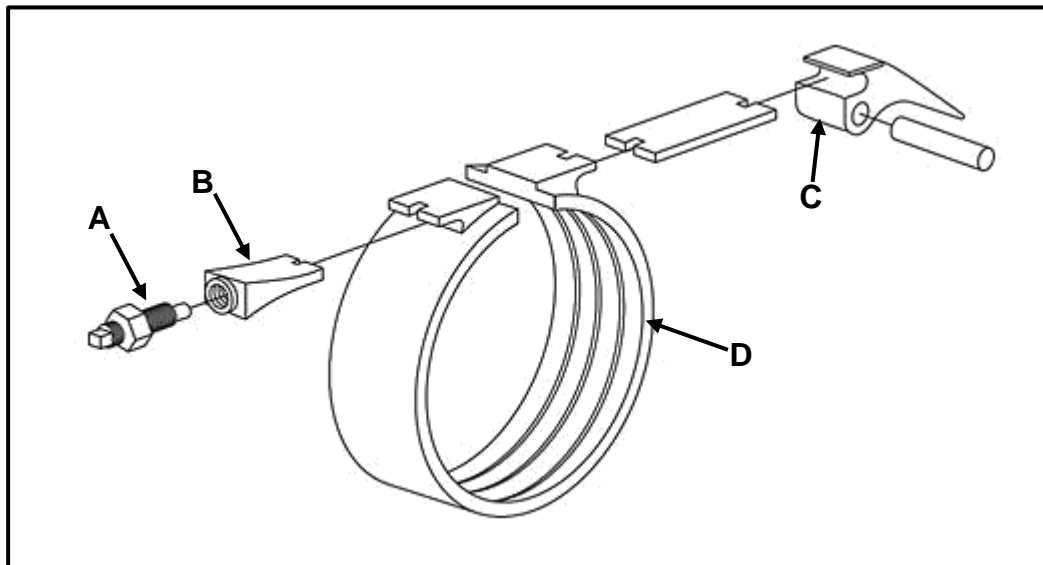

FIGURE 9.4
9.4 FIGURE 9.4 below shows an exploded view of a brake band in an automatic gearbox. Answer the questions that follow.